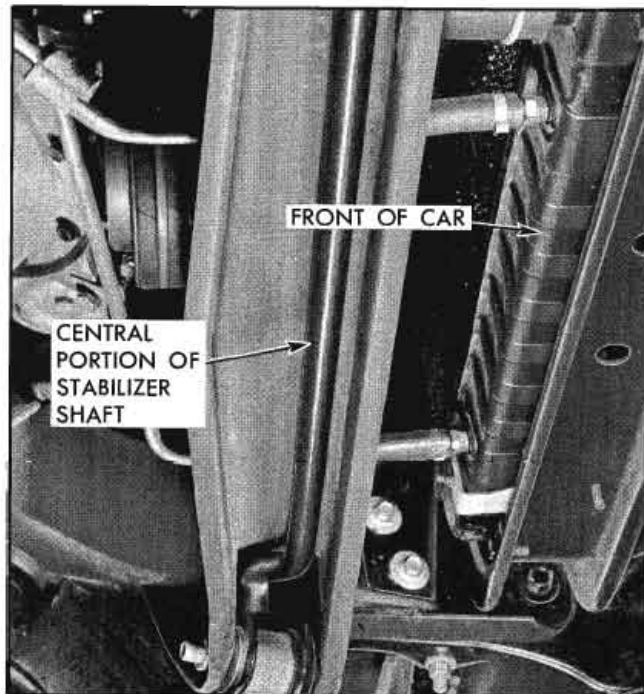

Fig. 3-27 Stabilizer Shaft Properly Positioned
4. Attach stabilizer shaft to frame by placing two brackets over rubber insulators on bar and installing mounting bolts to frame. Tighten bolts to 20-35 lb. ft. torque. When properly installed the central portion of the shaft will be toward the front of car (Fig. 3-27).